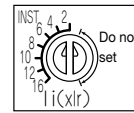

Fig. 30-3
- When MCR (option) is not attached, I_i is set as shown in Fig. 30-3.